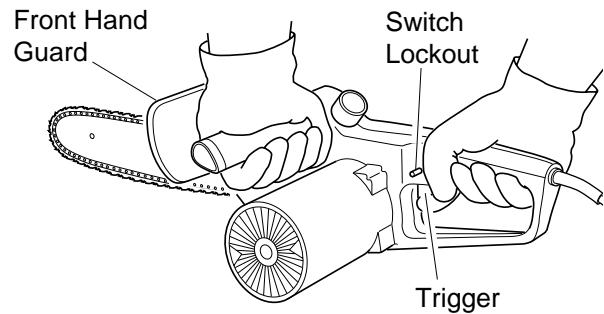

Figure 5 - Front Hand Guard, Switch Lockout, and Trigger Location
3. Use both hands to grip saw. Always use left hand to grip front handle and right hand to grip rear handle. Use firm grip. Thumbs and fingers must wrap around saw handles (see Figure 5).
5. When ready to make a cut, press in switch lockout with right thumb and squeeze trigger (see Figure 5). This will turn saw on. Releasing trigger will turn saw off. Make sure saw is running at full speed before starting a cut.